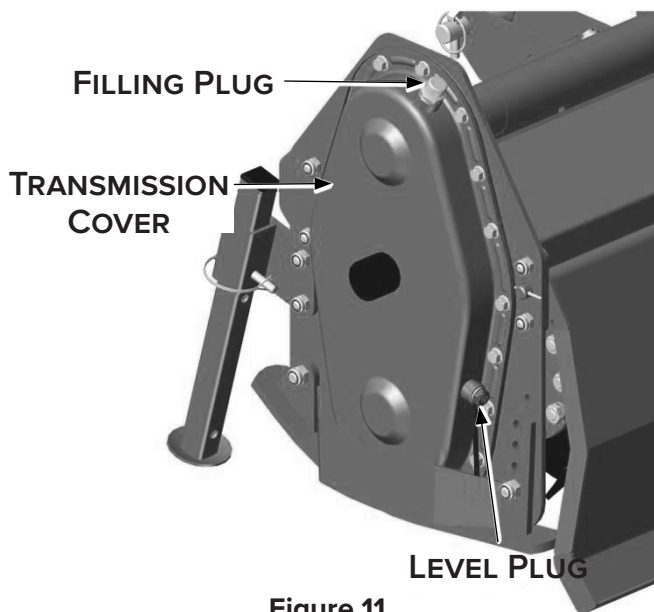

Figure 11
3. Remove the oil level plug to completely drain the oil into the tank [Figure 11].